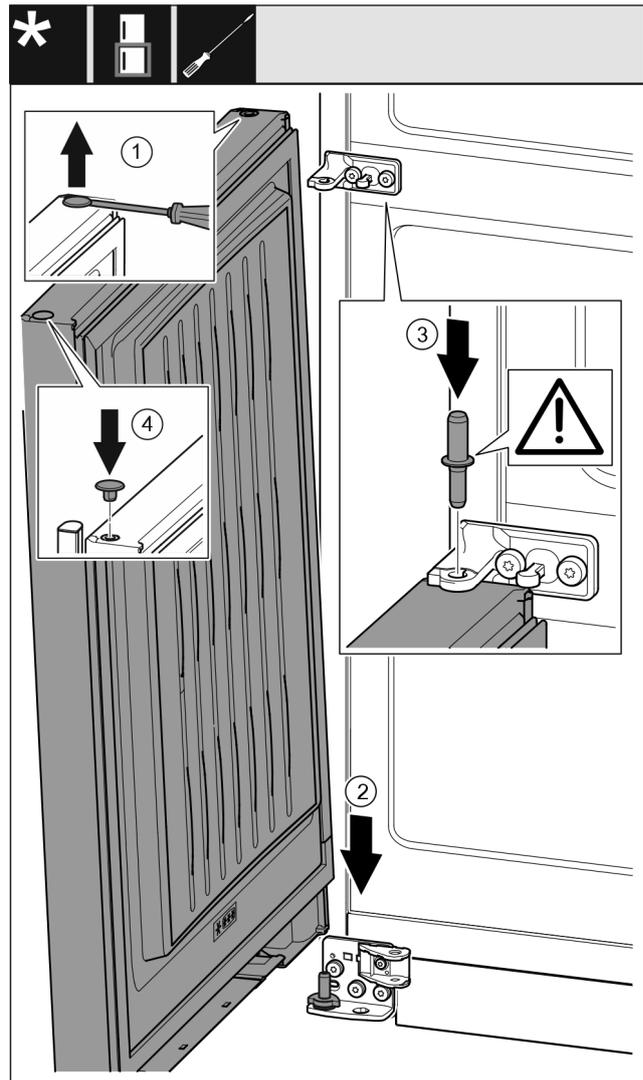

Fig. 57
- ▶ Use a slotted screwdriver to lift the plug Fig. 57 (1) carefully and pull it out.
- ▶ Lower the door Fig. 57 (2) onto the bottom bearing bolt.
- ▶ Insert the centre bearing bolt Fig. 57 (3) through the centre bearing block in the lower door. Ensure that the latching cam is pointing towards the rear.
- ▶ Re-insert the plug Fig. 57 (4) on the other door side.